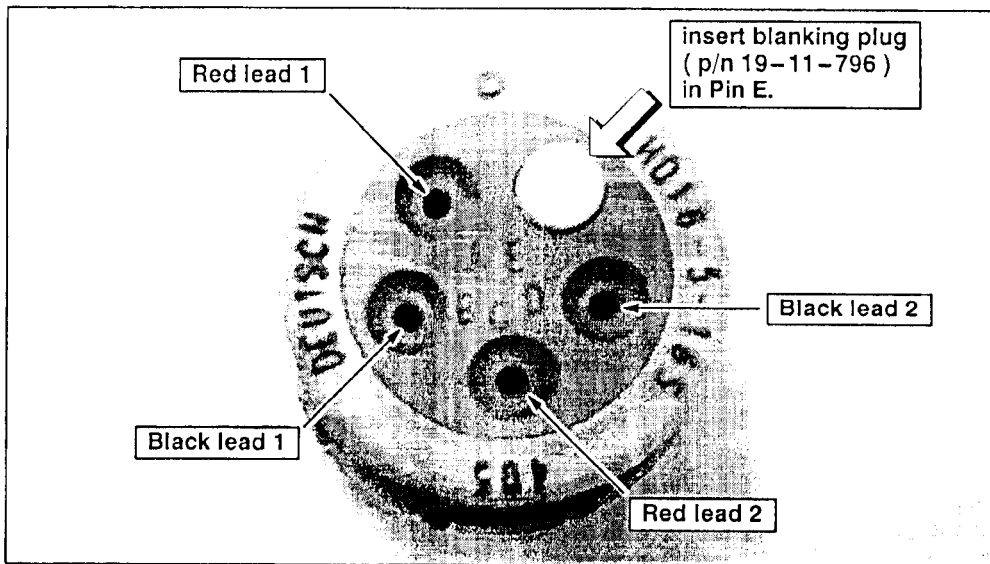

Figure 7. Plug (p/n 19-11-1403).
14. On a workbench, insert the blanking plug (p/n 19-11-796) into Pin E of the 5-pin Deutsch connector plug (part number 19-11-1403). Load the open red and black leads from the appropriate motor drive module into the 5-pin Deutsch connector plug, in the locations shown in Figure 7.